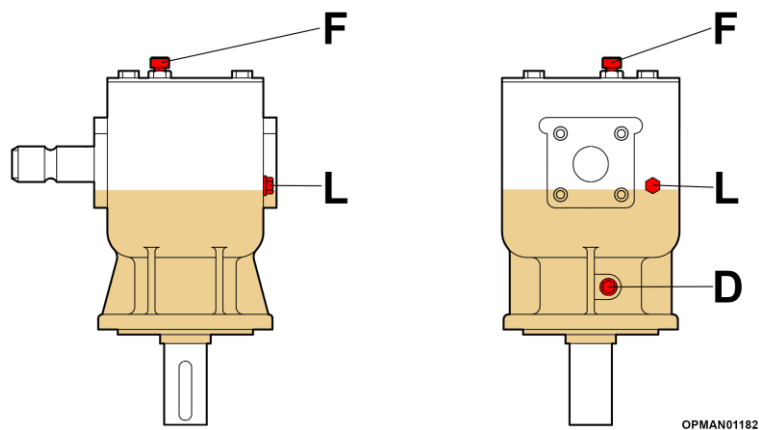

Figure 5.1 – Rollicut Gearbox
To drain the oil, the gearbox is fitted with a **drain plug**. The location of the drain plug is given in Figures 5.1 (D). If there are facilities to vacuum draw the oil out of the respective gearbox, the oil can be changed through the fill hole/dipstick location instead; see Figure 5.1 (F).
The gearbox should not require additional lubricant unless the box is cracked, or a seal is leaking. It is recommended that the oil level is **checked every day before operation**. Additional or filling with new oil should be added through the **fill hole with the level plug removed**; see Figure 5.1 (L). Keep filling until oil escapes out of the level hole, **before proceeding to use the machine**. Replace and tighten all plugs before using the machine.